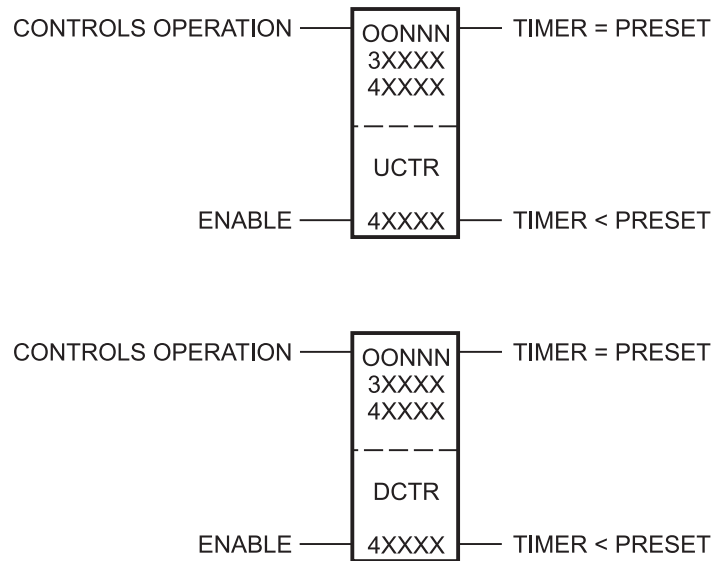

Figure 4-7
- Identify the counter register values. The top number is the number you want to count up to or down to before the output coil turns on (e.g., 3XXXX). The middle value is the name of the register (e.g., DCTR). The bottom number is the holding register (4XXXX). See Figure 4-7.